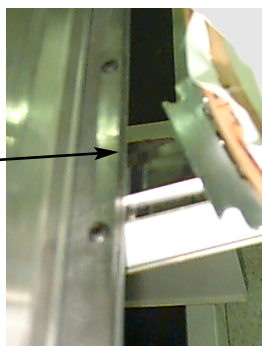

Figure 2-13
4. Along the x-carriage (behind the needle case) are the mounting locations for the flat hoops. The mounting brackets on the peripheral are spring-loaded, so insert the right side (as you are facing the machine) of the hoop's bracket first, then push slightly to the right (to move the spring-loaded bracket). Insert the left side of the hoop's bracket next. Refer to Figures 2-13 and 2-14.